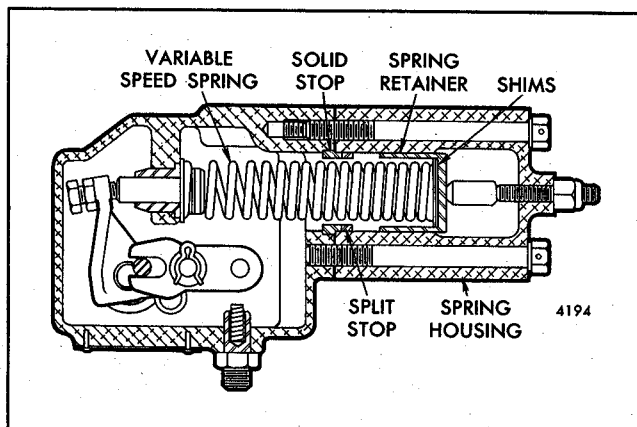

Fig. 11 - Location of Shims and Stops
3. Refer to Table II and determine the stops or shims required for the desired full-load speed. A split stop can only be used with a solid stop (Fig. 11).